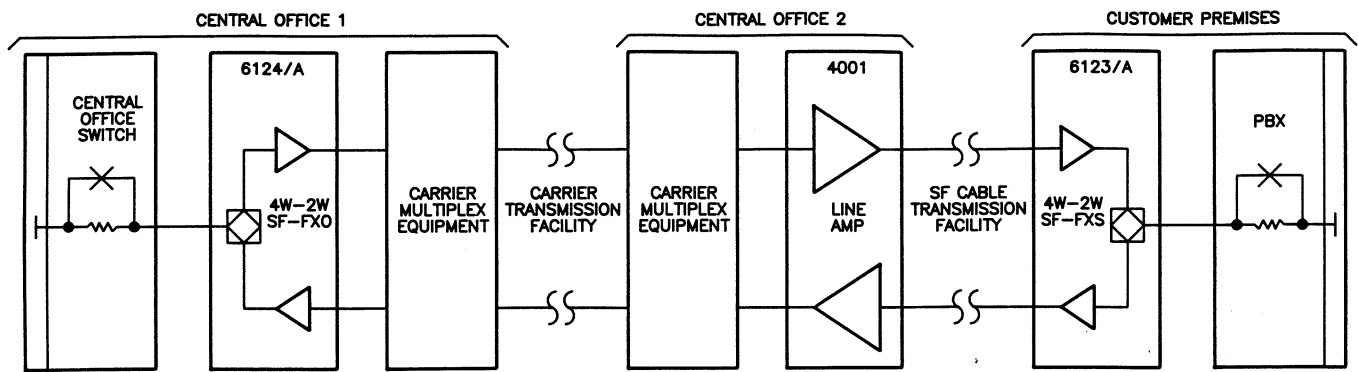

figure 2. Typical foreign-exchange (FX)
2.02 The 6124/A module is well suited to a variety of 4wire-to-2wire SF-to-FXO and SF-to-office-end-OPS applications, both network-terminating and otherwise. In applications where the serving telephone company uses facility-side SF signaling, the module fulfills Registered Facility Interface Codes OC13A, OC13B, OC13C, OL13A, OL13B, and OL13C. Figures 2 and 3 show typical FXO and OPS applications of the 6124/A.